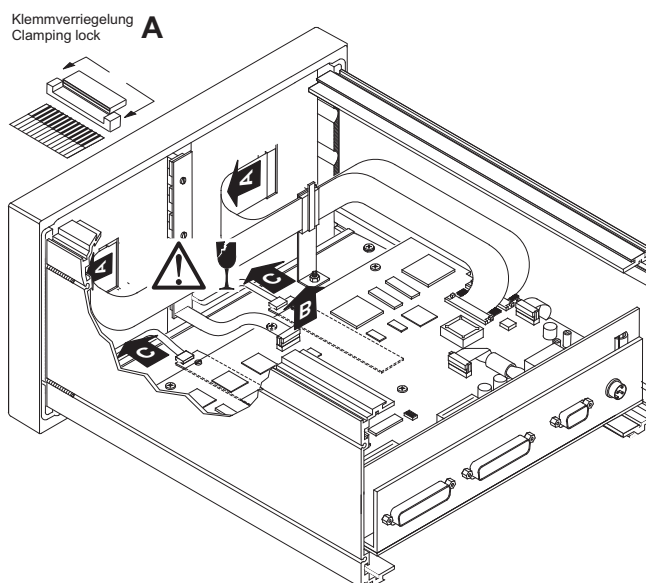

Fig. E 8-3: Removing connecting and flat cables
2. Carefully remove the flat cables from the clamping locks of each display (see Fig. E 8-3, A). Then loose the locker of the key pad data cable at the upper side of the main pcb (see Fig. E 8-3, B) and remove it carefully. At last carefully remove the display connecting cables from the inverter pcbs on the lower side of the main pcb (see Fig. E 8.3, C). Avoid damage of the cables because of canting.